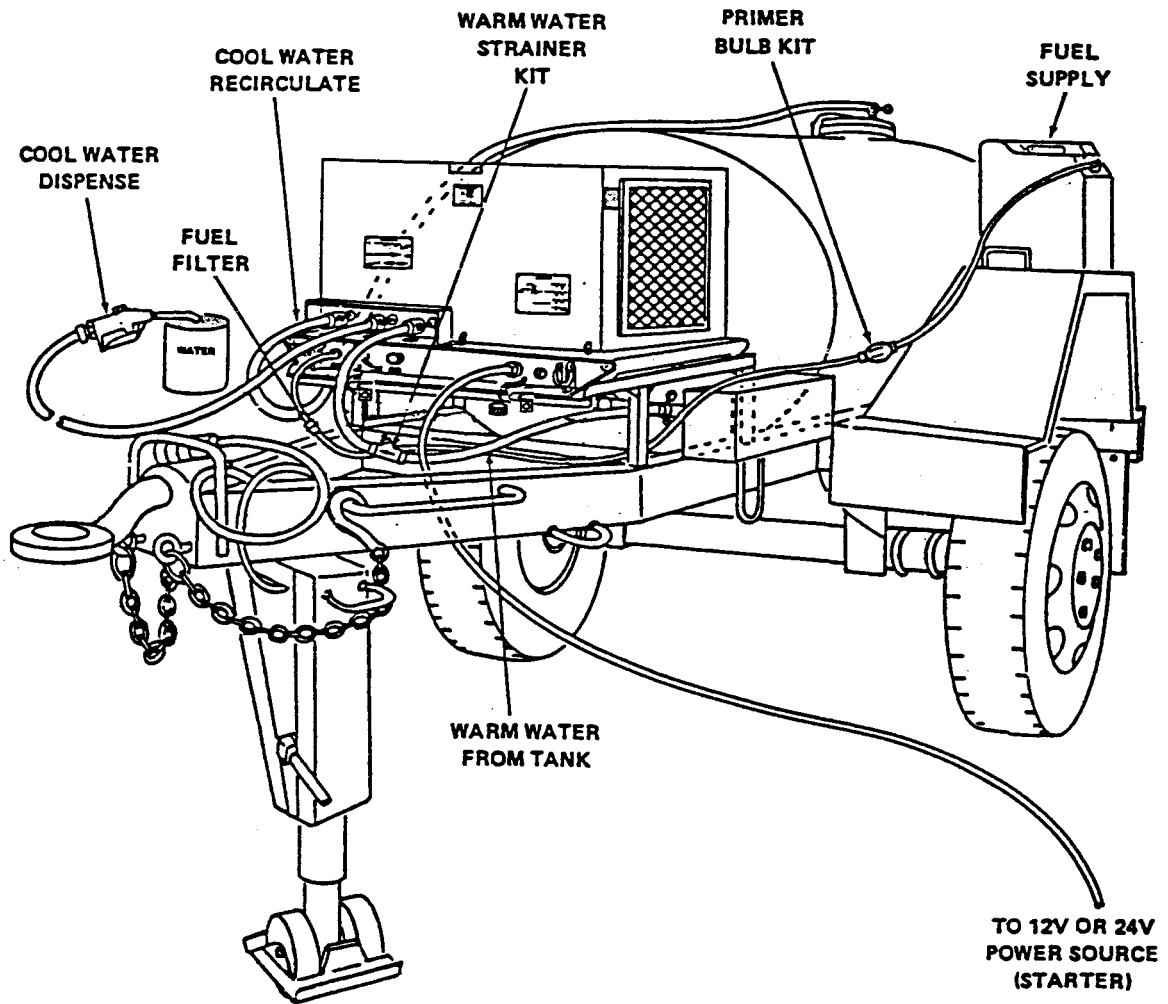

Figure 4-3. Modified M149A 400 Gallon Trailer Tank for Small Mobile Water Chiller Field Use
- 4 Figure 4-3 shows water chiller mounted.